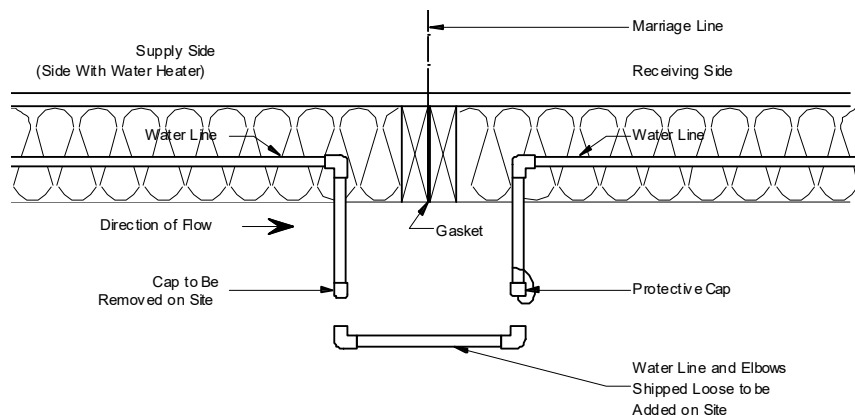

Figure 63. Water line crossover through bottom board
2. **Connect pipes.** Connect threaded water lines using flexible pipe or a rigid connector line (if provided) and connector fittings (do not use lubricants or sealants). Connect non-threaded water lines, pipe, and elbows with cement provided, inserting pipe to full depth of each fitting (**Figure 63**).